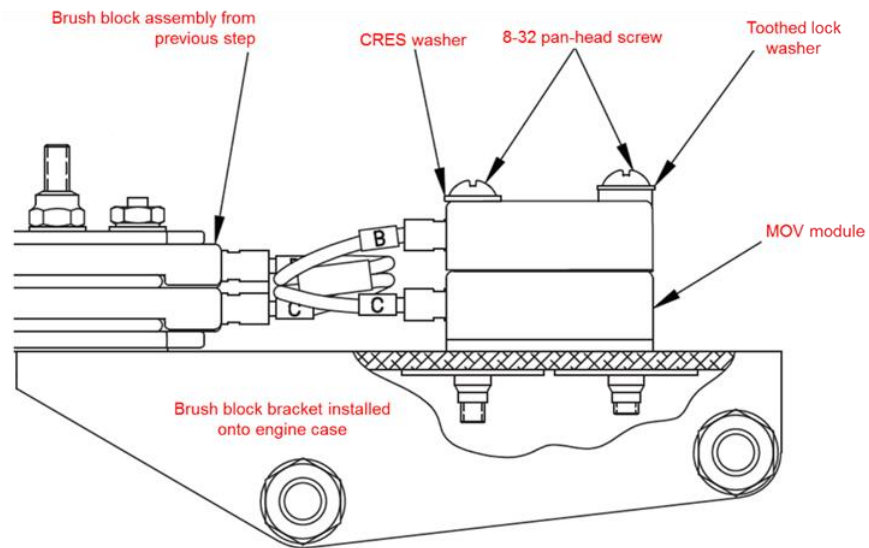

Figure 2: MOV Module Hardware Detail - Left Side View
- iv. Position MOV module 106802 onto the brush block bracket using the hardware stack-up shown in Figure 2. The MOV module should have two wires already attached. Torque attaching hardware on the MOV only according to Hartzell Ice Protection Installation Drawing 106833 and/or Manual 180.